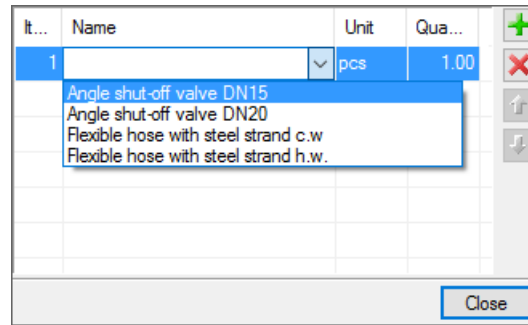

Fig. 53. Window containing the additional equipment available for the draw-off faucet
**Additional equipment** - for **draw-off faucets**, as shown on Fig. 53.